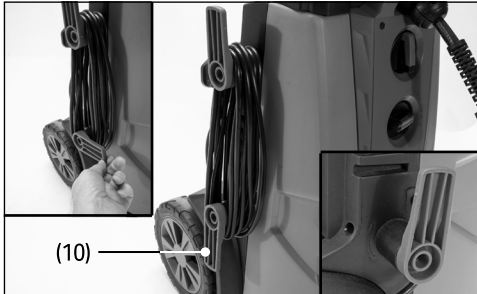

Fig. 3
6.2 Cord Tidy Hooks (Fig.3)
- 98679 – the two hooks (10) supplied can rotate 360°.